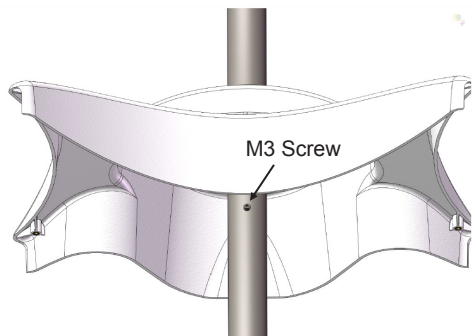

Figure 5: M3 post screw.
6. Using the 2.5mm Allen key, remove the M3 screw on the post. It is located approximately half way up the post. Refer to Figure 5.
7. Slide the cover towards the flared end of the post as far as possible. Then re-install the M3 screw into the post. This is to hold the cover up while other work is done. Refer to Figure 5.